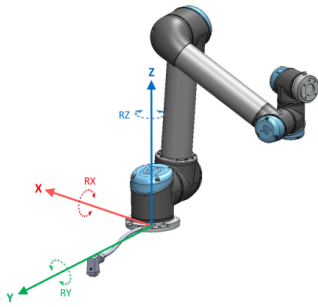

Figure 13.1: Base feature
*Base:* feature located with origin in the centre of the robot base (see figure 13.1)